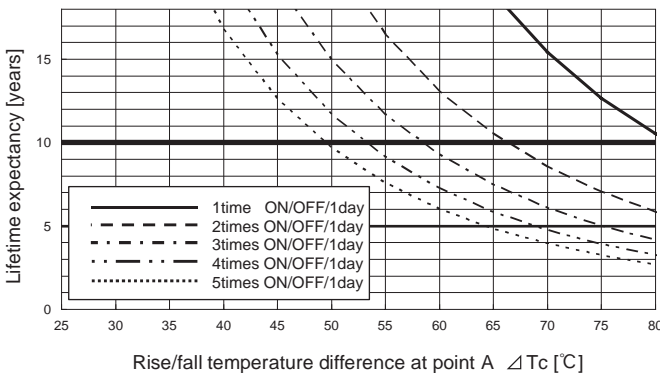
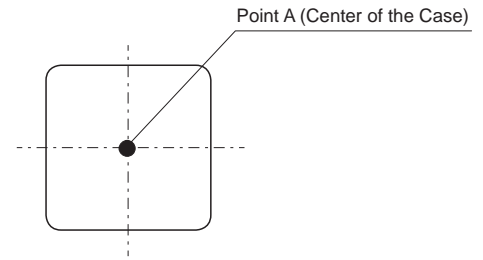

Fig.12.1 Lifetime expectancy against rise/fall temperature difference
Fig.12.2 Temperature measuring point (Top View)
- Product lifetime expectancy depends on case temperature difference (ΔT_c) and number of cycling in a day is shown in Fig.12.1 (It is calculated based on our accelerated process test result.) If case temperature changes frequently by changing output load factor etc., the above the lifetime expectancy design should be applied as well. And point A which is shown in Fig.12.2 must keep below 105°C.
- The warranty period is basically 10 years, however it depends on the lifetime expectancy which is shown in Fig.12.1 if it is less than 10 years.